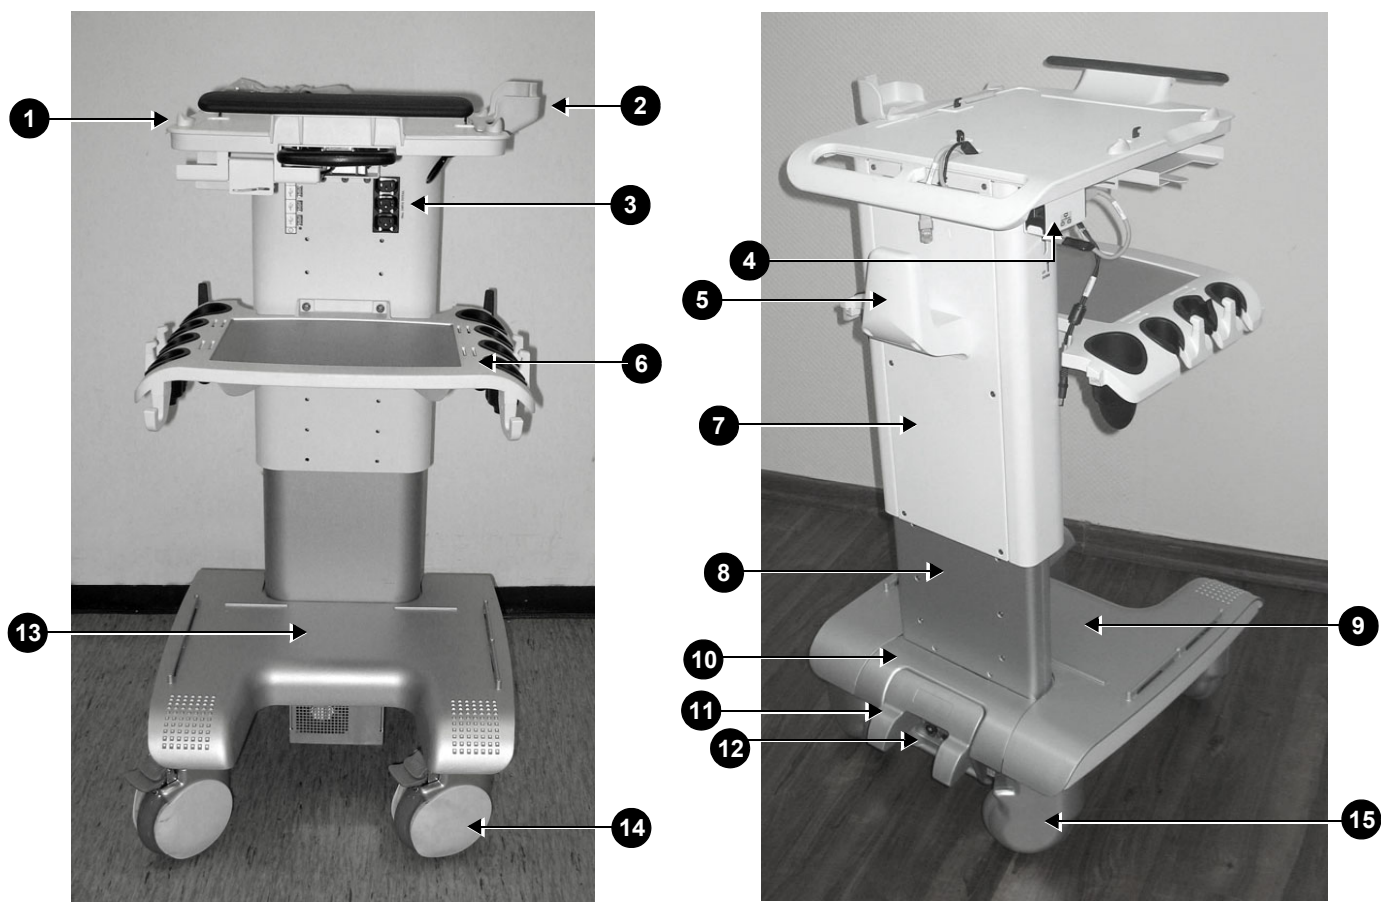

Figure 8-72 Vivid *i n* / Vivid *q N* SafeLock Cart Components
- 1.) While facing the SafeLock Cart (i.e., working from the front of the Cart,) loosen and remove the two screws that secure the ECG Cable Protector to the Top Shelf Assembly (refer to Figure 8-72 on page 8-62). See Figure 8-78 below.